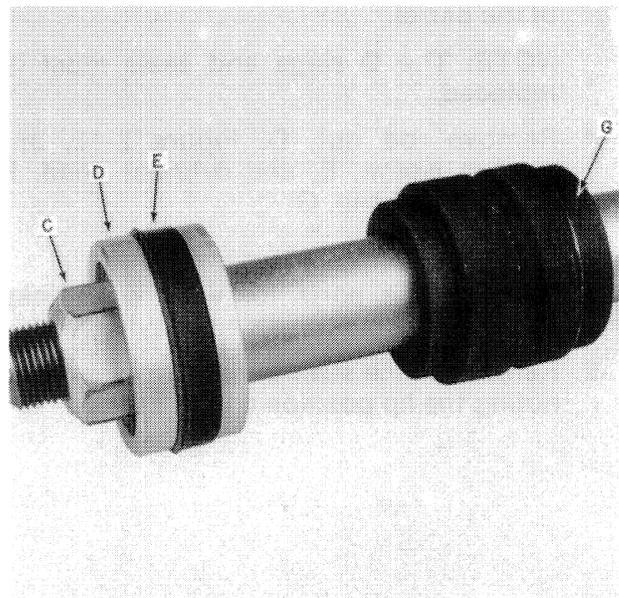

FIGURE 2-9
4. Remove rod nut, C, Figure 2-9, piston, D, and the cylinder head.
2. Install a new seal in cylinder head, G, Figure 2-9. Slide the cylinder head assembly over the piston rod.
3. Install a new seal, E, Figure 2-9, on the piston. Install the piston and locknut, C. Tighten the locknut to 155 ft. lbs. (210 N·m) torque.